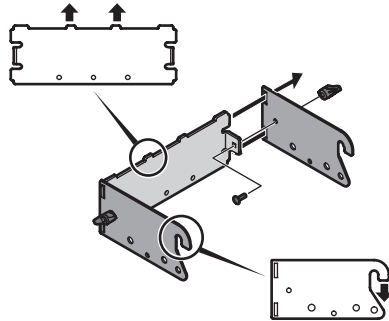

Figure 1
1. Attach the two hitch side brackets to the universal support bracket (783-08129) using two carriage bolts (710-0276) and wing knobs (720-04122) from hardware pack 689-02364. See Figure 1.